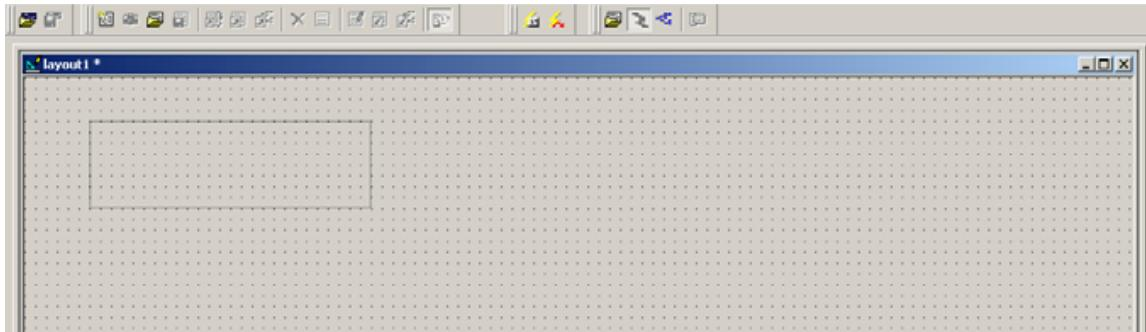

Figure 2.11: Selecting Slider Bar from Visual Instruments and drawing
2. The cursor changes into a square target. Click and hold the mouse while dragging a rectangular shape in the Layout1 window (see Fig. 2.11).